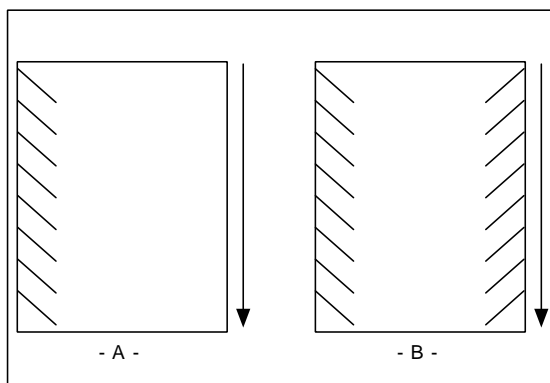

Fig. 26
- Angled waves in the output. (Fig. 26 A&B)